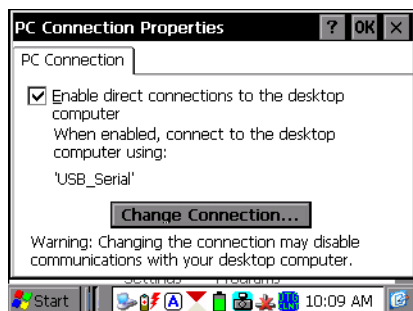

Figure 4-1. PC Connection Properties Dialog Box
1. On the FC-2600, tap **Start ▶ Settings ▶ Control Panel** (Figure 4-1 on page 4-2). From the control panel selections, double-click on the *PC Connection* icon. The *PC Connection* dialog box displays.